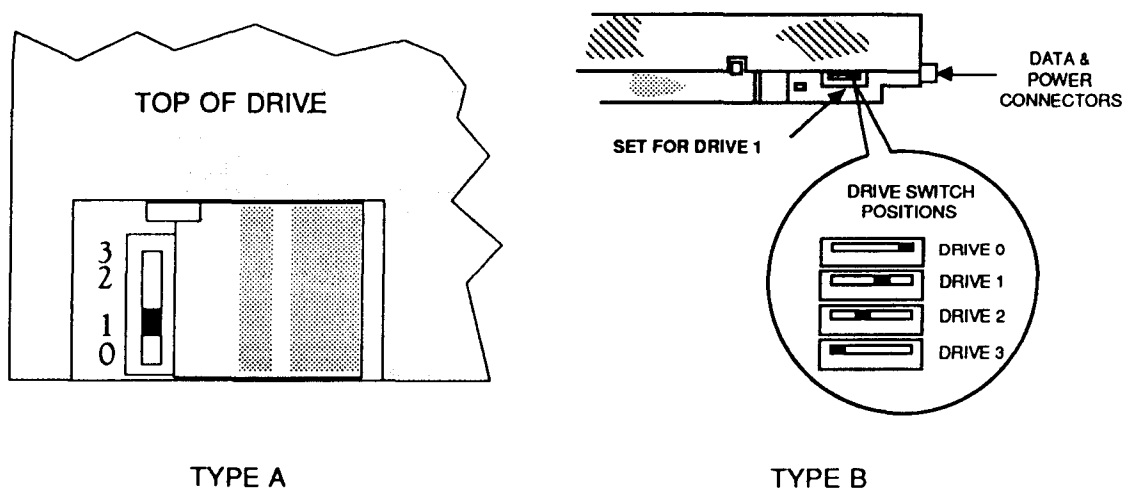

Fig. 4: Configuring the new drive as drive 1
- 5 Before fitting the new drive, it must be configured as drive 1. To do this, set the small slide switch on the drive to position 1 (see Fig. 4 below). The location of the slide switch will depend on the type of drive supplied with your particular kit – there are two possibilities: